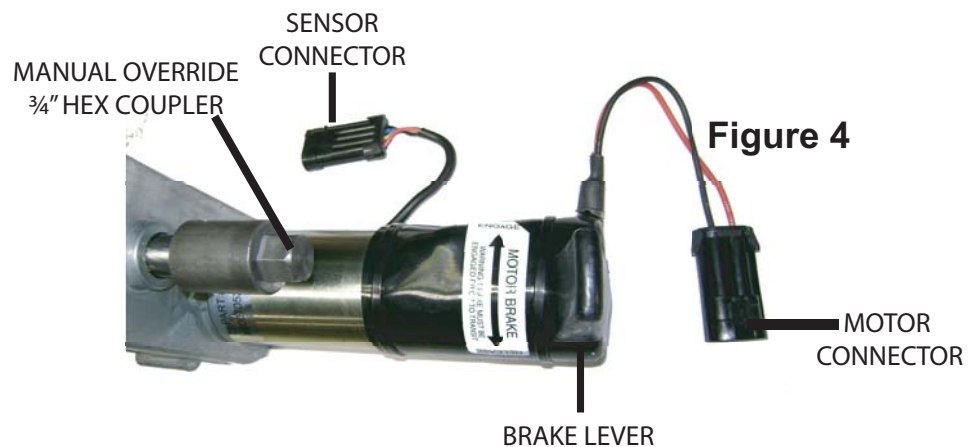

Figure 4
1. Locate each motor and 3/4" hex coupler. (Figure 4)